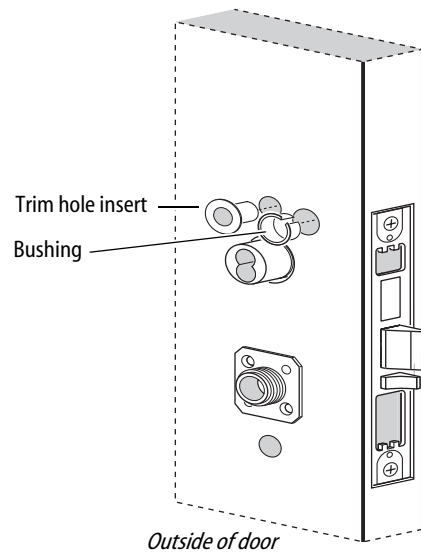

Figure 9 Installing the trim hole insert and bushing
- 1 Insert the trim hole insert into the upper trim hole on the outside of the door, as shown in Figure 9.
- 2 Insert the bushing into the harness hole on the outside of the door, as shown in Figure 9.